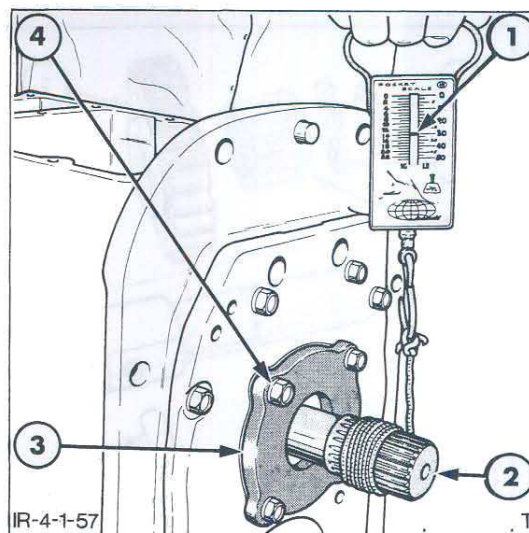

Figure 58
8. Wrap a suitable length of cord around the output shaft splines, Figure 58. Ensure that the cord does not overlap. Attach a pull scale to the cord and measure the pull required to rotate the output shaft.